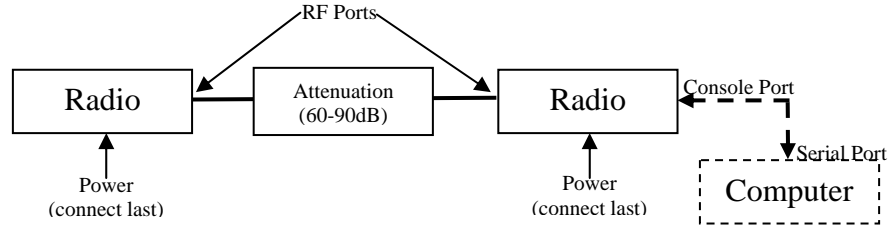

Figure B-1: Basic Back-to-Back Test Configuration
- Connect attenuation and (known-good) RF cable(s) between radio pair, as shown in Figure B-1.
Connect the system as in figure B-1, using the combination of fixed and variable attenuation in between the radio's RF ports. Connect the voltmeter to either radio's RSL measurement port and the associated reference ground connection.